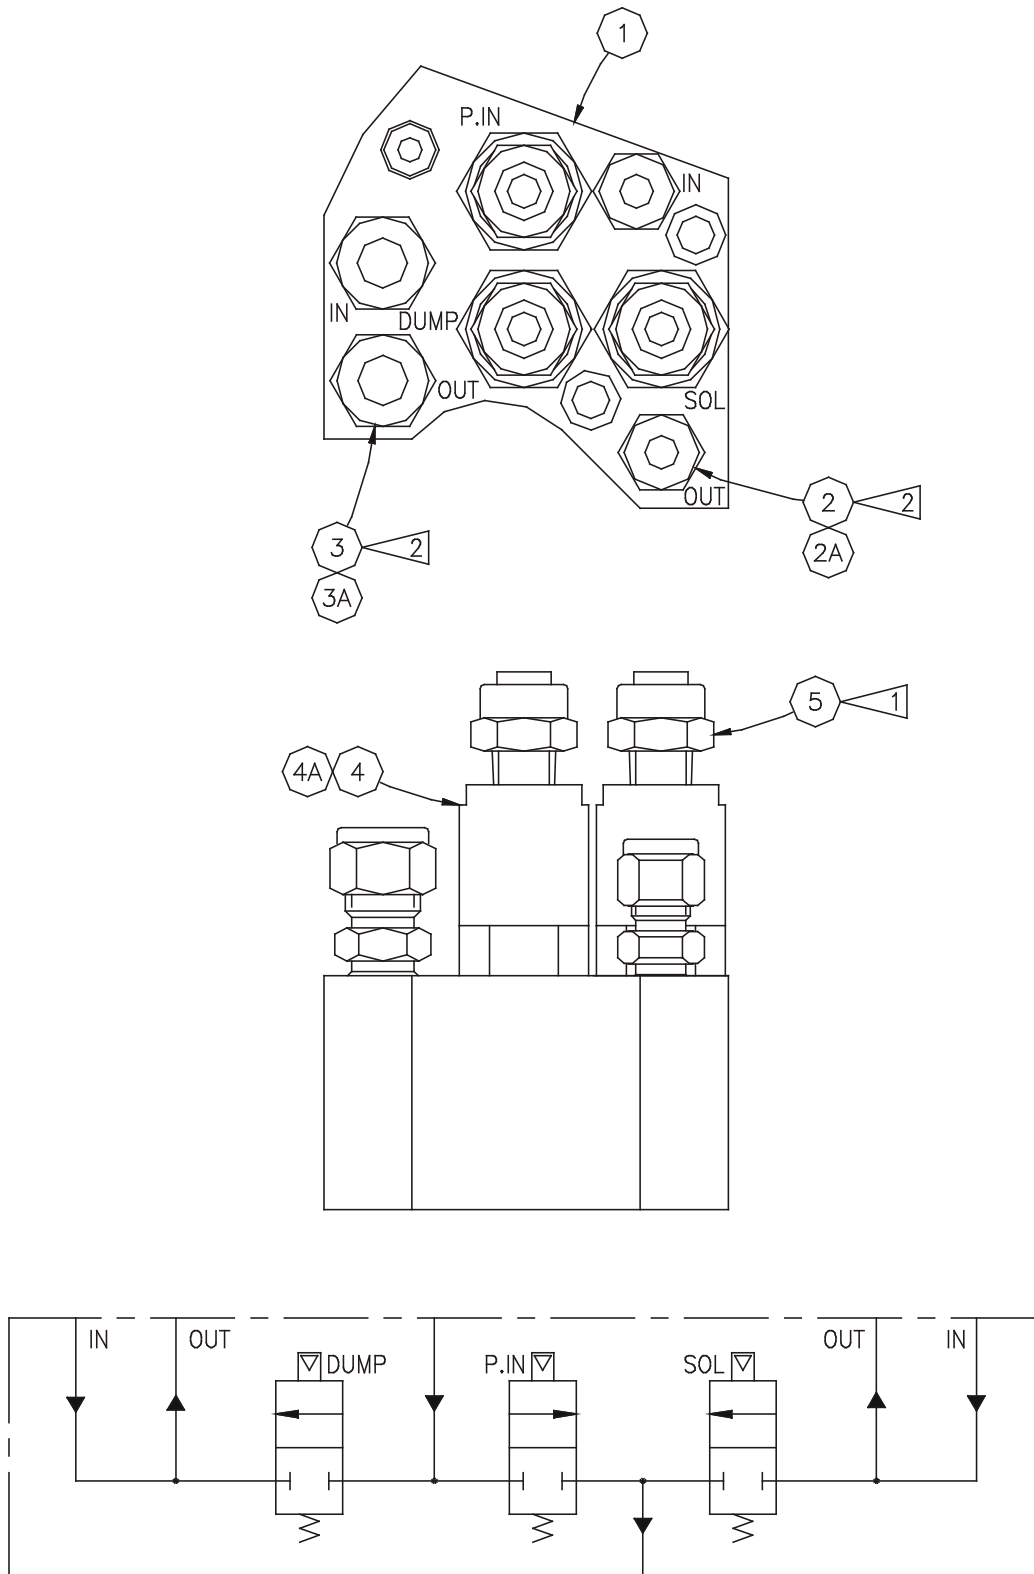

Figure 19: Waterborne Fluid Manifold Assembly
WATERBORNE FLUID MANIFOLD ASSEMBLY - PARTS LIST (Figure 19)
*** PARTS LIST BULLET DEFINITION TABLE (Figure 19)**